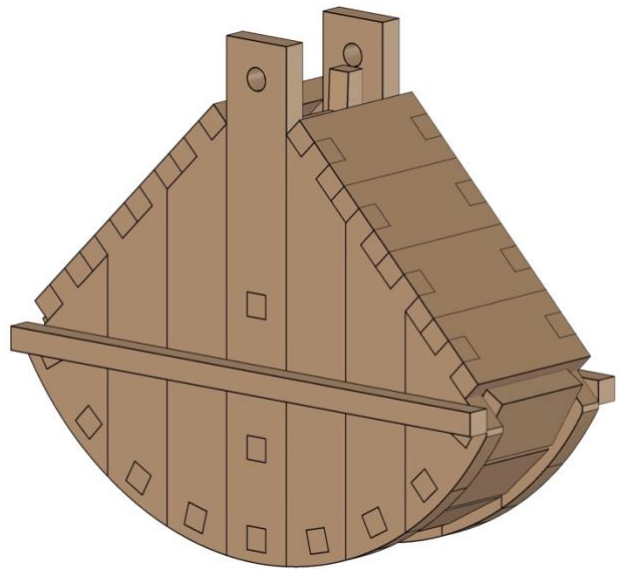

Fig. 48
- Attach the last two G7 pieces, as shown in *Fig. 48*.